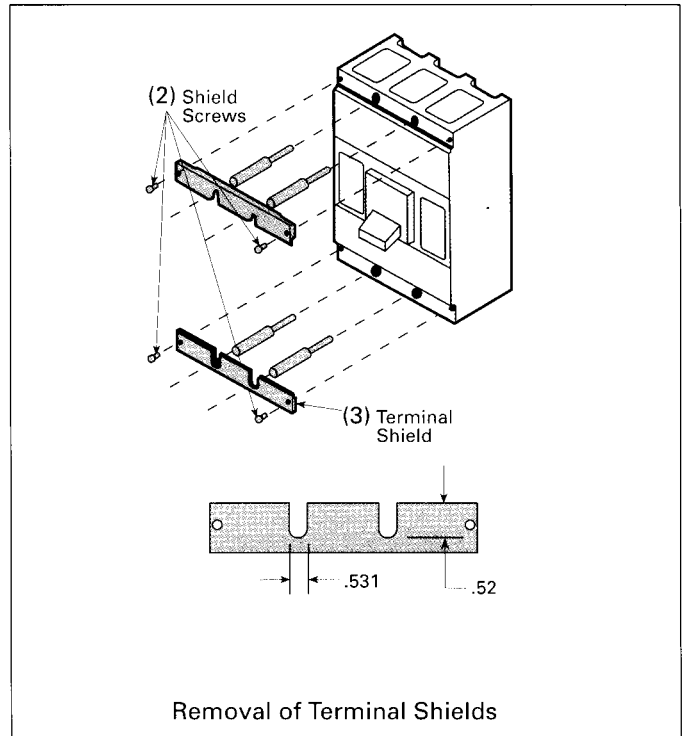

Figure 1
- C. Remove the four shield screws (2) and two lug shields (3) (Figure 1).